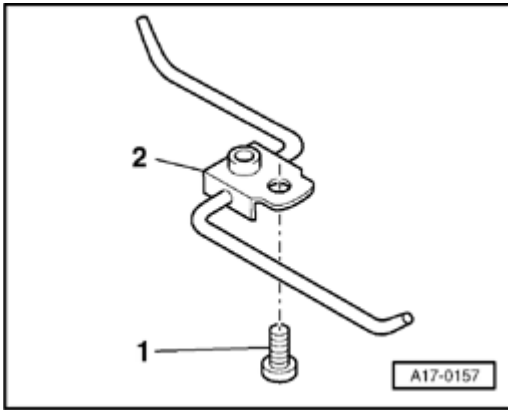

Fig. 200: Oil Injector Jet For Piston Cooling
NOTE: Oil injector jet for piston cooling. See Fig. 200.
- Mark allocation to cylinder using a color marker -B-. See **Fig. 200**